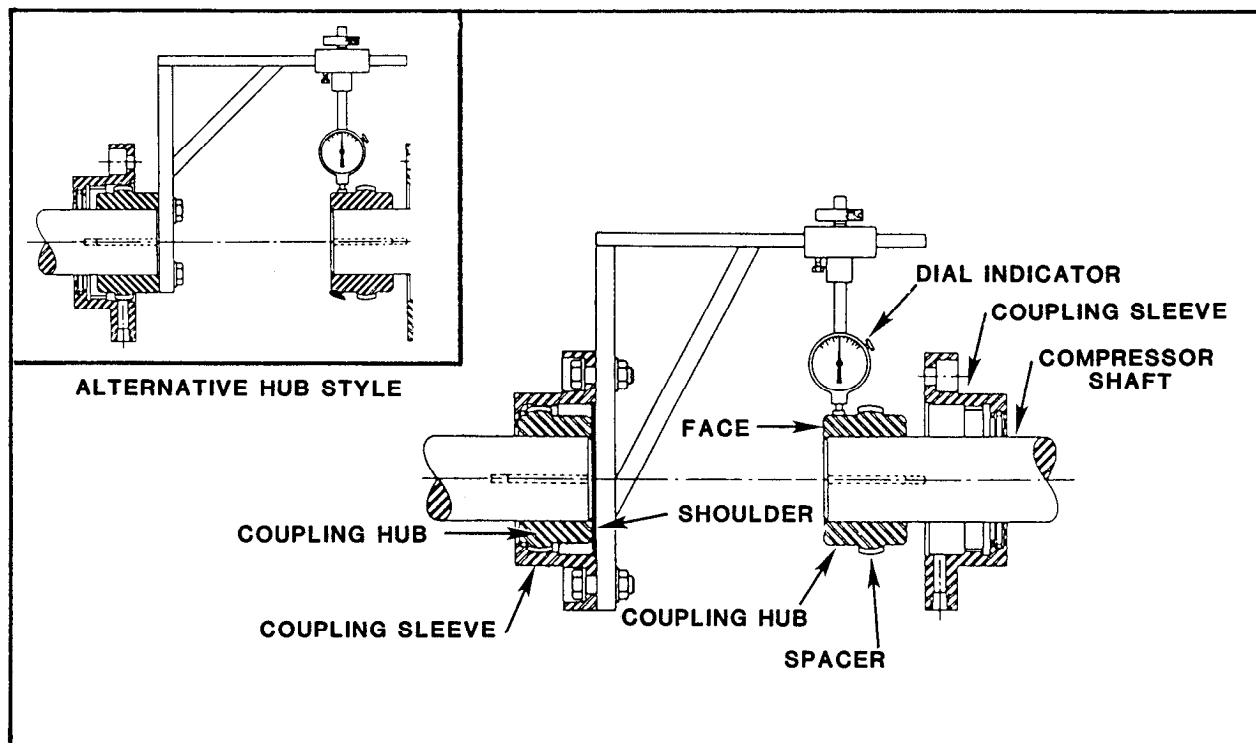

FIGURE 3-6. Alignment Setup
- (a) Attach indicator bracket to compressor hub of coupling. Figure 3-6 illustrates two methods of attaching the indicator mounting bracket to the coupling.
(e) To check angular alignment, follow the above procedure, but take indicator readings on the coupling hub face (figures 3-6 and 3-7).